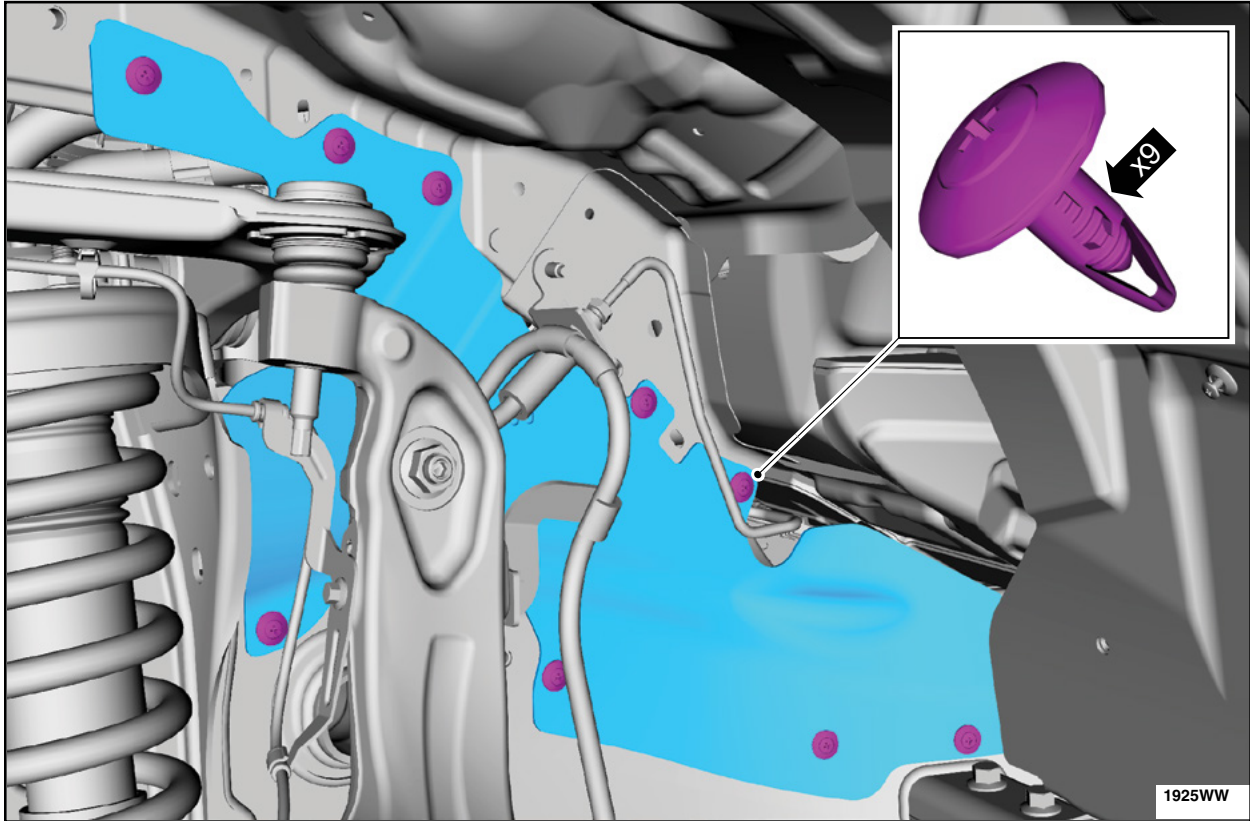

FIGURE 54
55. Install the LH splash shield and the pin-type retainers. See Figure 54.